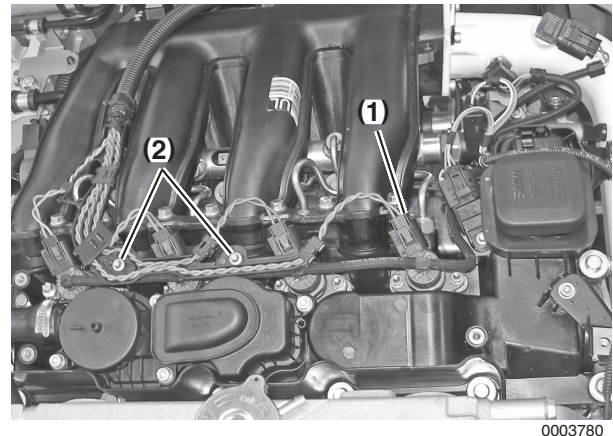

Figure 5-126
1. Remove injector harness connectors (**Figure 5-126, (1)**) from all fuel injectors.
2. Remove screws (**Figure 5-126, (2)**) and move injector harness out of the way.